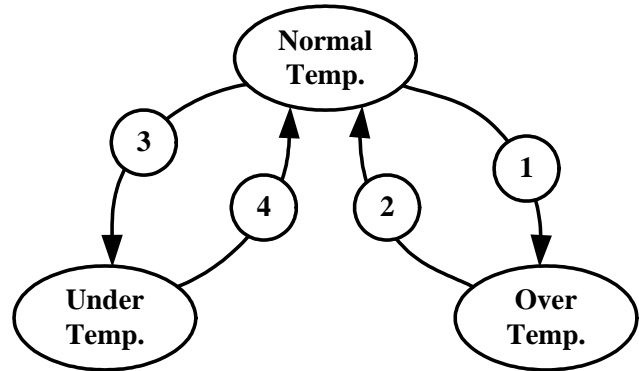

Fig.5 Temperature Protection State Machine
**States Description (Fig. 5)**
**Transition Description (Fig. 5)**